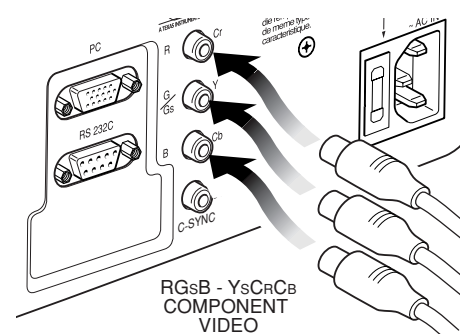

Fig. 19
This input is suitable for a RGB video signal, or for a Component (YCrCb) type, with composite synchronisation on the green signal (RGsB) or on the luminance (Y) signal (YsCrCb) through a cable with RCA/Phono type connector (Fig. 19).